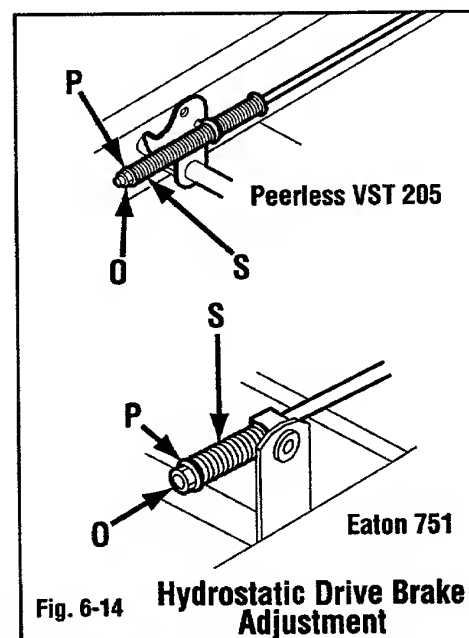

Fig. 6-14 Hydrostatic Drive Brake Adjustment
- Adjust locknut (O, Fig. 6-14) so a gap of 1/16" exists between washer (P) and spring (S).